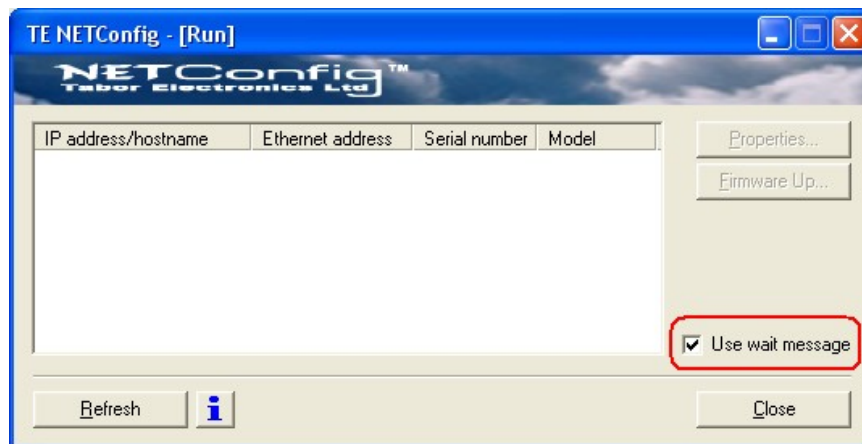

Figure 6-4: The NETConfig Utility
The NETConfig window lists **Tabor** devices found on your subnet. Figure 6-4 shows an example of this display.
3. Click on the “Use wait message” to select this option as shown in Figure 6-4.